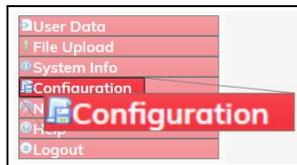

Figure 142: Configuration link
4. On the **Menu** list, click the **Configuration** link. Figure 142